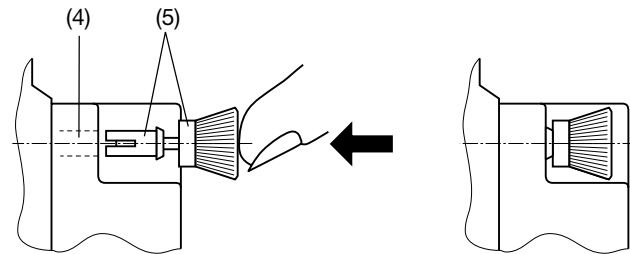

Fig. 2
To fix the module mechanically, insert the four plastic clips supplied (5) in the fixing holes (4) (fig. 2).